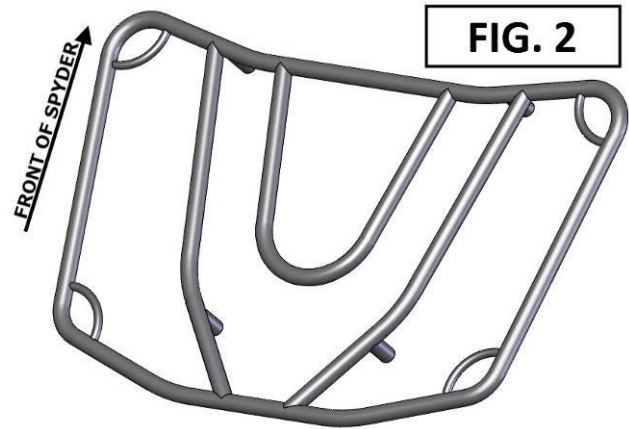

FIG. 2
4. REMOVE THE NEW RACK FROM THE BOX AND USE FIG. 2 TO DETERMINE WHICH SIDE IS THE FRONT OF THE RACK.